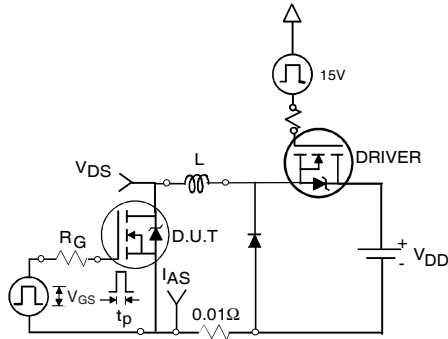

Fig 12a. Unclamped Inductive Test Circuit
- ③ Pulse width $\leq 1.0ms$; duty cycle $\leq 2\%$.
- ④ $C_{oss\text{ eff.}}$ is a fixed capacitance that gives the same charging time as C_{oss} while V_{DS} is rising from 0 to 80% V_{DSS} .
- ⑤ Limited by T_{Jmax} , see Fig.12a, 12b, 15, 16 for typical repetitive avalanche performance.
- ⑥ This value determined from sample failure population. 100% tested to this value in production.
- ⑦ R_θ is measured at T_J of approximately 90°C .
3. Equation below based on circuit and waveforms shown in Figures 12a, 12b.